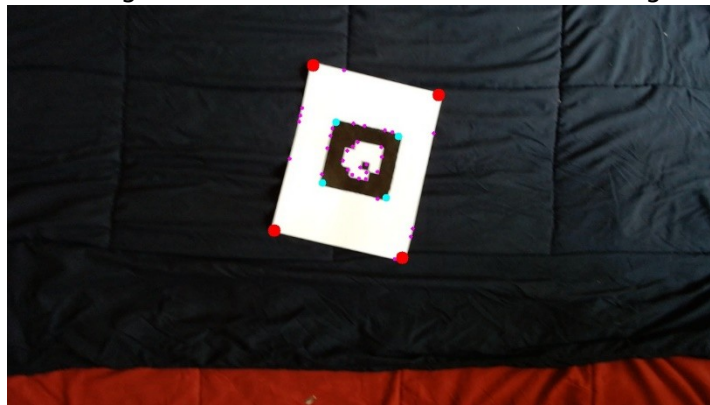

Figure 9
- o Now that all the inlier points have been obtained, run the same logic that was used for detecting the paper corners. This will give us the tag corners, 1, 2, 3, and 4, as shown in Figure 9.